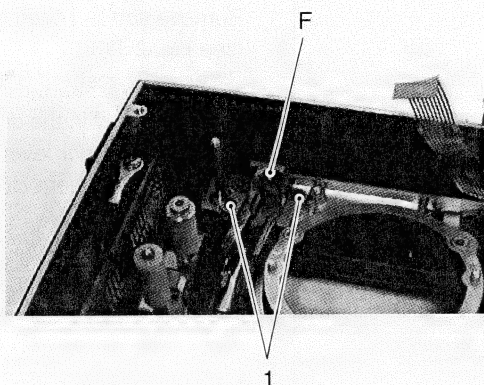

Fig. 2-7-16
5. Attach the supply catcher F using the two screws 1 (see Fig. 2-7-16).